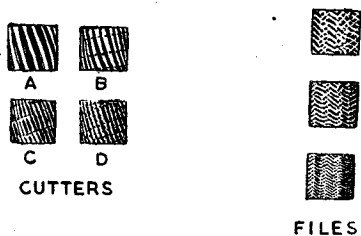
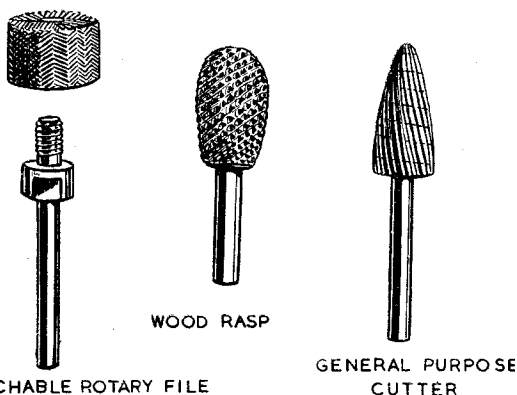

Fig. 2. Four tooth pitches of cutters and three of rotary files
Fig. 3. Three types of cutting tool
A large range of files, cutters, rasps, wire brushes, emery bobs, grinding wheels, polishing mops and sanding discs is available, and these are supplied in hundreds of shapes and sizes, making it possible to carry out all kinds of work. The rotary cutters are much used on aircraft work for cutting duralumin, aluminium, electron, and all kinds of non-ferrous alloys. The various tooth pitches are shown in Fig. 2. (A) is used on soft alloys when removing large cuts, (B) is the
finishes are shown in Fig. 2. Rasps are used for working in wood and other soft materials. These are supplied in two cuts, rough and smooth; an example of the rough cut is shown in Fig. 3. Cutters, files and rasps are supplied in dozens of shapes including tapers, cones, balls, domes and parallels amounting to hundreds of variations, some complete with spindles and others which screw on to the spindle, as shown in Fig. 3.